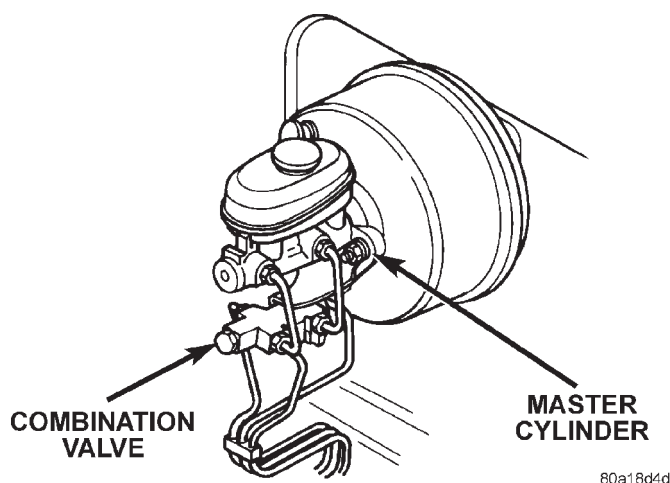

Fig. 21 Master Cylinder/Combination Valve
- (1) Remove evaporative canister, refer to Group 25 Emissions for service procedure.
- (2) Disconnect brake lines to master cylinder and combination valve (Fig. 21).
- (3) Remove combination valve bracket mounting nuts and remove valve.
- (4) Remove master cylinder mounting nuts and remove master cylinder.
- (5) Remove cylinder cover and drain fluid.